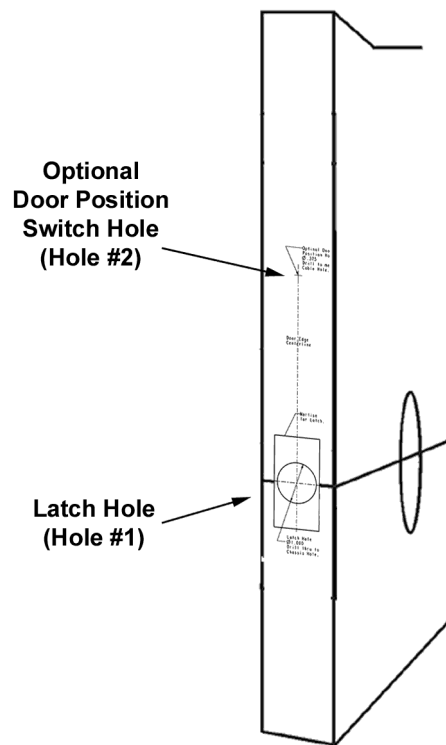
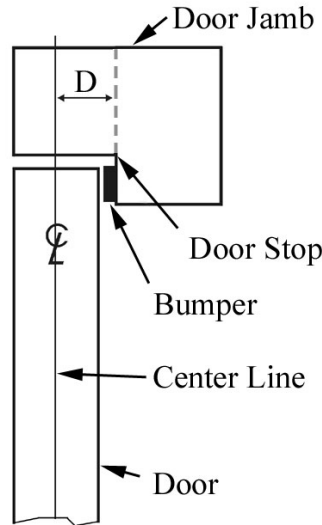
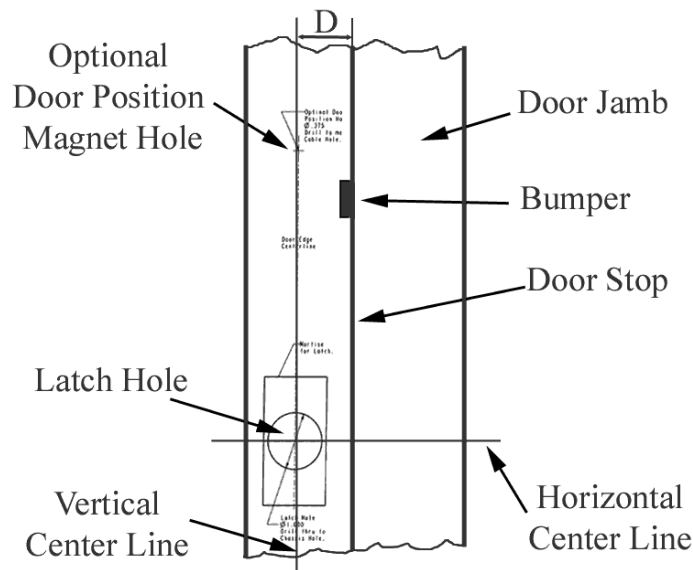

Figure 2-17 – Template RSTP21 on Metal Door Edge
Figure 2-18 – Locating Center Line on Doorjamb (top view)
Figure 2-19 – Template, RSTP21, on Doorjamb (side view)
Note: Skip this section if the Drill & Hole Marking Jig was used or if the Latch Hole (Hole #1) is already drilled and the Optional Door Position Switch (Hole #2) is not being installed (Figure 2-17).
- 2.5.2.2 Align Template, RSTP21, on the door edge so that the center of the Latch Hole is at the intersection of the vertical center line and horizontal line drawn in Section 2.5.2.1 (Figure 2-17).
- 2.5.2.4 If the Latch Hole (Hole #1) does not exist, center punch its center point (Figure 2-17).
- 2.5.2.5 If the Optional Door Position Switch (Hole #2) is to be installed, center punch the correct center point for the size magnet to be installed (Figure 2-17).
- 2.5.3.1 If the strike is not mortised or if a door position switch is being used, mark a vertical line on the strike side of the doorjamb, one half the thickness of the door plus the thickness of any bumpers on the jamb away from the door stop of the doorjamb ($D = \frac{1}{2}$ door thickness + bumper thickness, Figure 2-18 & Figure 2-19). The vertical line must be in line with the Center Line of the door when the door is closed.
- 2.5.3.2 Mark a horizontal center line (Figure 2-19) on the door jamb that lines up with the horizontal center line on the door that intersects the center of the Chassis Hole on the door (Hole #2 in Figure 2-17).
- 2.5.3.3 Place Template, RSTP11, with the center of the Latch Hole over this 38” intersect. Align the center lines on the template with the center lines drawn on the doorjamb and tape it in place (Figure 2-19).
2.5.3.5 If the Optional Door Position Switch is being installed then center punch the Optional Door Position Magnet Hole (Figure 2-19).